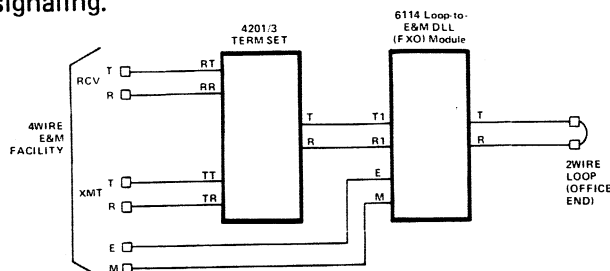

figure 2. 6114 in 4wire E&M-to-loop application
2.01 The 6114 Loop-to-E&M DLL (FXO) Module is used at the office end of an FX circuit or the PBX end of an OPS circuit to provide loop-to-E&M signaling conversion. The 6114 is typically used with an associated term set or repeat coil in a 2wire circuit. The main application of the 6114 (and associated term set/repeat coil) is as a stand-alone loop-to-E&M converter that can be used to interface T-carrier, out-of-band signaling, or a 4wire E&M signaling facility directly. Figure 2 shows one possible application of this type. Other applications are possible for the 6114 and term set/repeat coil as well.
2.07 The main application of the 6114 (with associated term set or repeat coil) is as a stand-alone pair used to convert loop signals from the office end to E&M signals for direct interface of a transmission facility using E&M signaling. This application is most commonly encountered in the conversion of T-carrier channels, out-of-band signaling, or 4wire E&M metallic facilities to loop signaling. Figure 2 shows a typical application of this type.